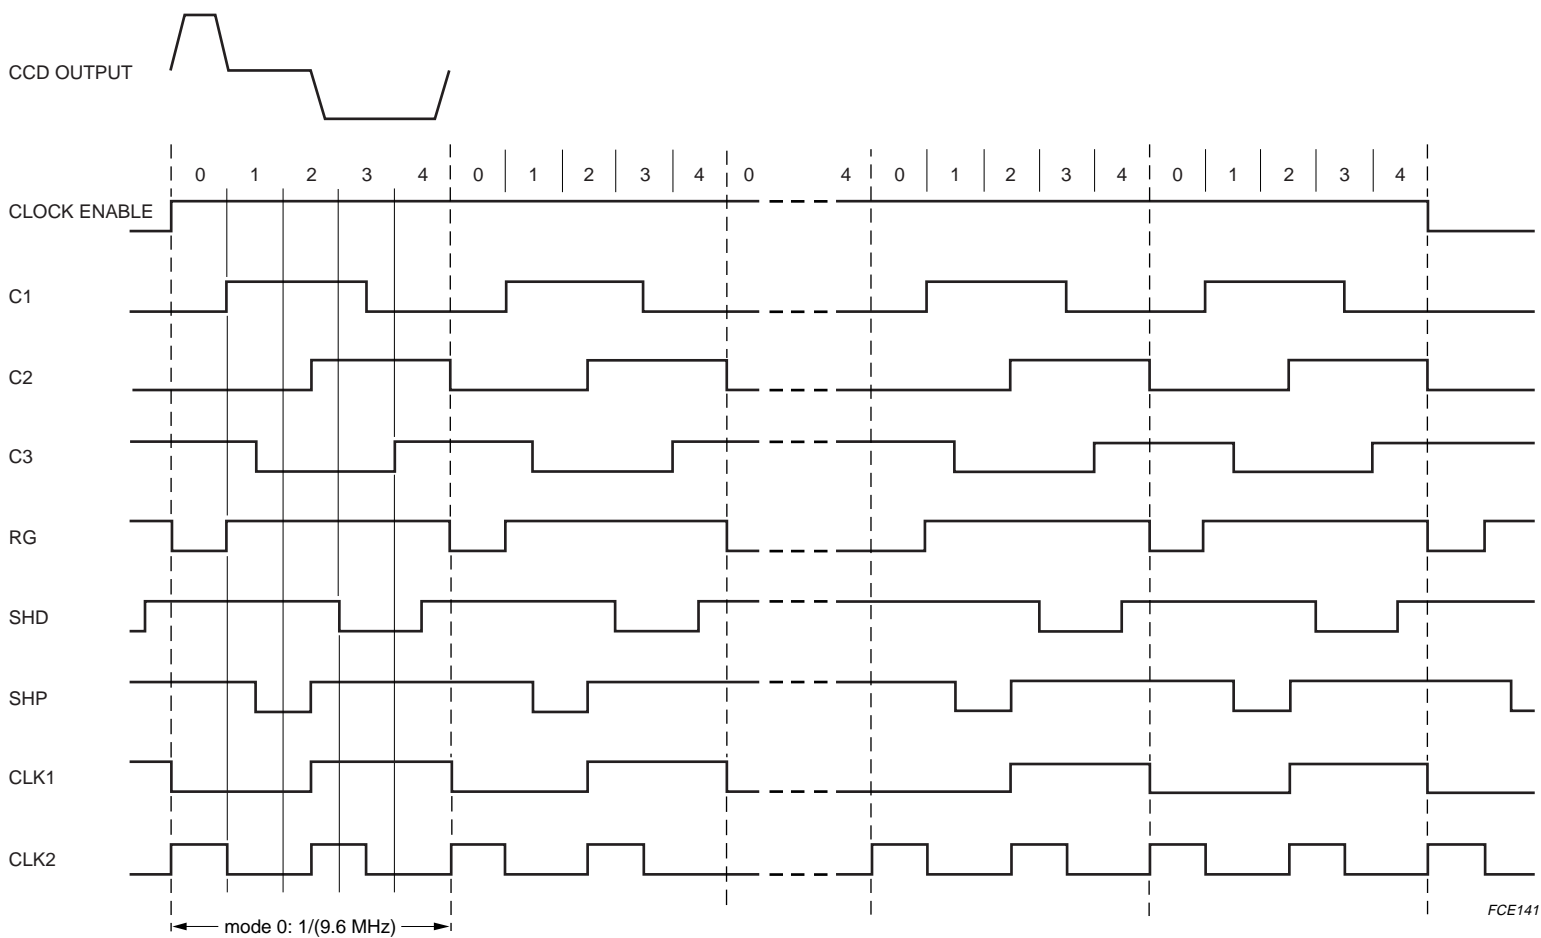

Fig.12 High-speed pulses for VGA sensors (1).
- High-speed pulses, see Figs 12 to 14